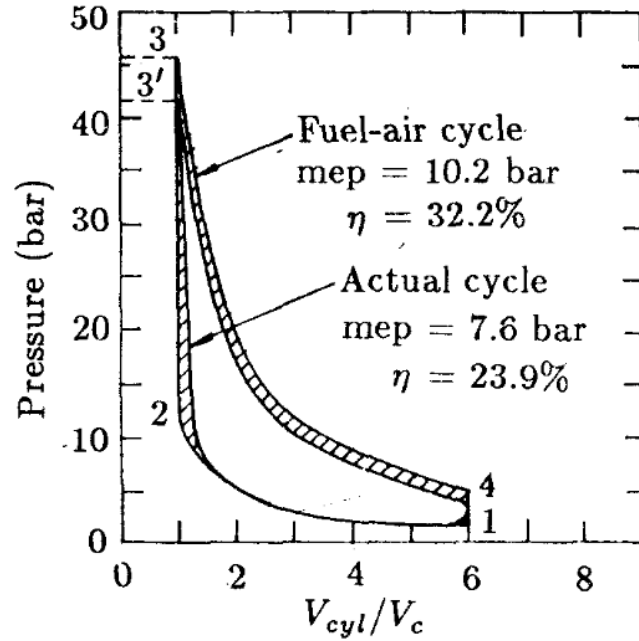

Fig. 5.3 Combustion Completed at TDC, Advance 35°
- With spark at TDC (Fig.5.2) the peak pressure is low due to the expansion of gases. If the spark is advanced to achieve complete combustion close to TDC (Fig.5.3), a direct loss, which is caused by additional work that is required to compress the burning gases.